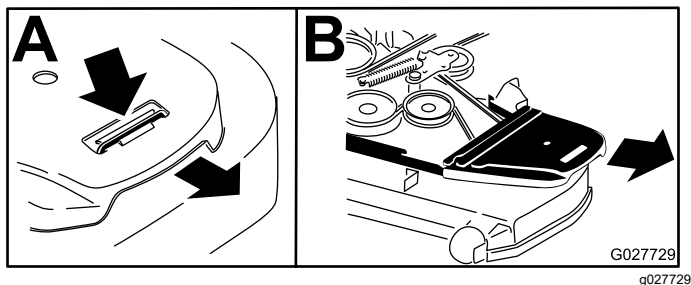

Figure 65
4. Remove the belt covers (Figure 65).